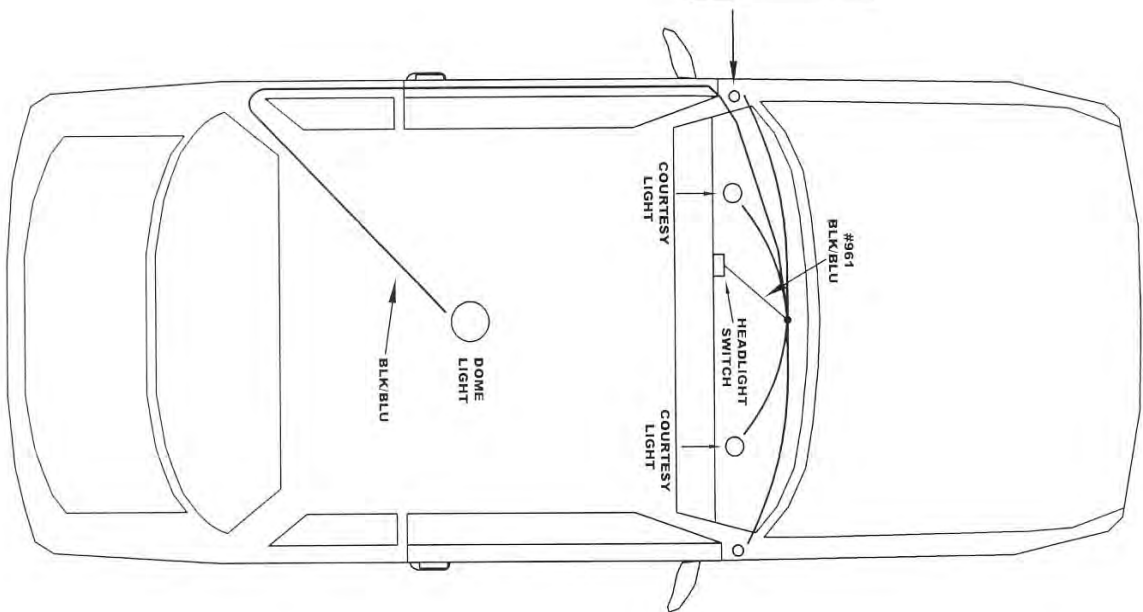

Figure 8-2 Interior Lighting
- 8.2.1 Interior Lights are switched through the door switches and the dash panel light switch. These switches apply power to the circuit. See **Figure 8-2**.